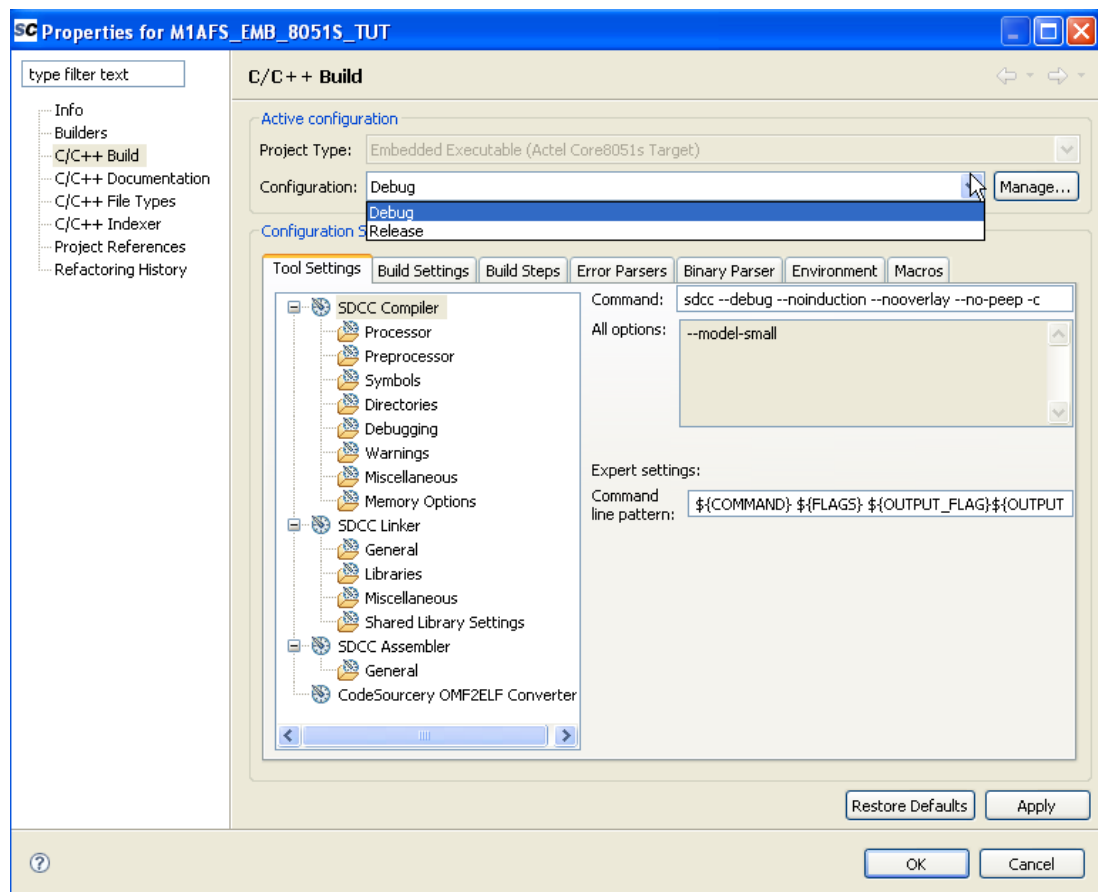

Figure 5-1 · Setting the Build Configuration
3. Select **Debug** to select a debug build (Figure 5-1).